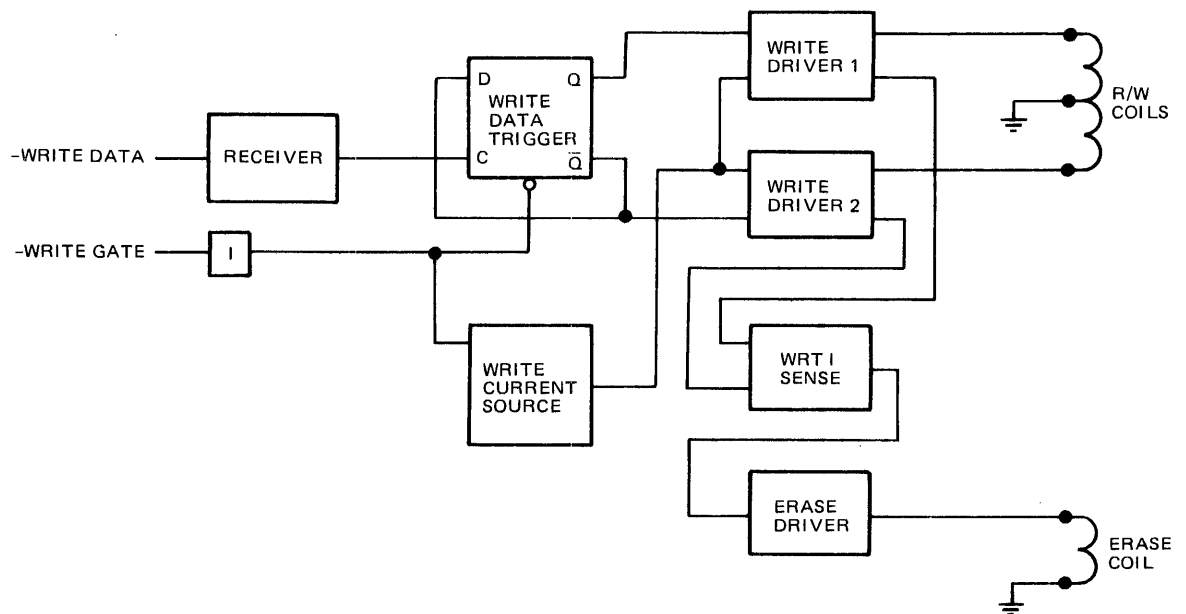

Figure 29 Write Circuit Functional Diagram
6.0 WRITE CIRCUIT OPERATION (FIGURE 29)